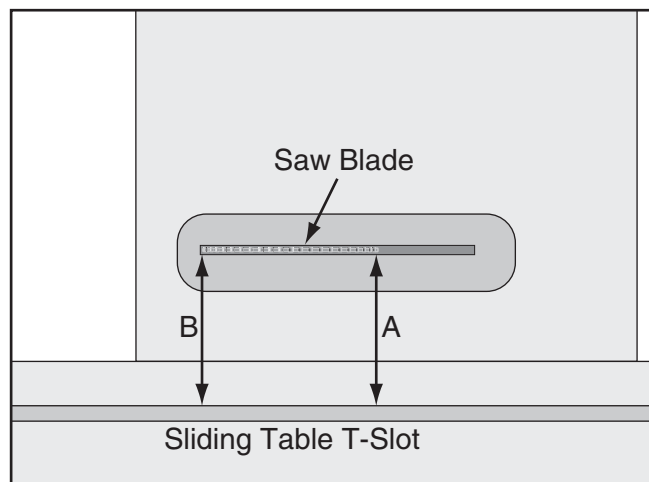

Figure 11. Measuring the distance between the sliding table T-slot and the saw blade.
14. Use the adjustable square and feeler gauges to measure the distance between the sliding table miter gauge slot and the main saw blade at the mark you made in **Step 13**. This is distance "A" shown in **Figure 11**.